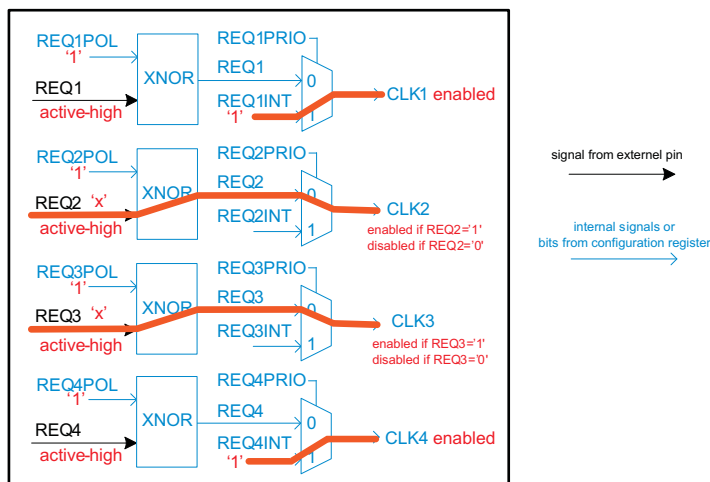

Figure 26. Clock Output Enable Signal
- (1) All data is transferred with the MSB first.
- (2) A device reset to default condition is initiated by a V_{DD_DIG} power-up sequence.
- (3) "–" means that dedicated bits do not change at RESET.
- (4) Inactive as long as the REQxPRIO bit is low, external REQx pins are valid (see Figure 26)
- (5) Writing data beyond 03h may affect device function.